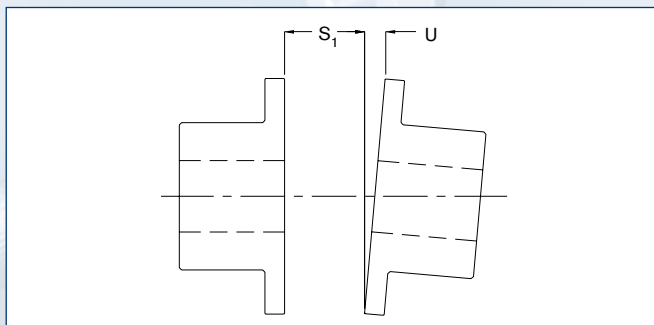

Fig. 5
2. Dimension (U) as shown in Figure 5, page 61 should be measured in at least three points, equally spaced, to determine maximum value for (U). This must not exceed the max. allowable dimension stated in Table 6, page 62.
3. Adjust or shim equipment to bring indicator reading within max. allowable angular misalignment (U).